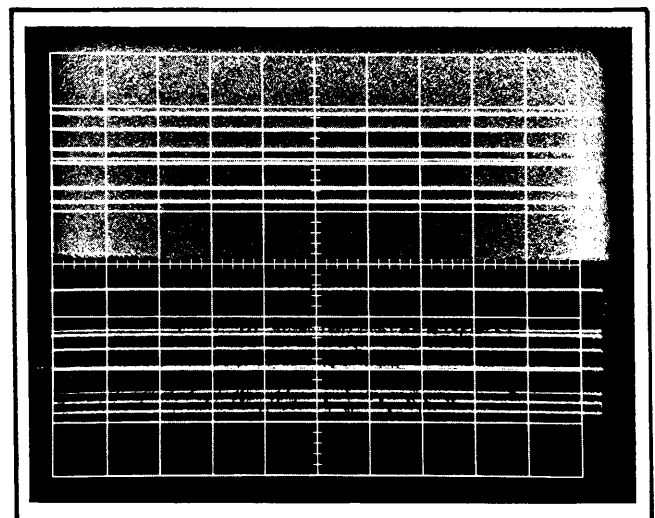

Fig. 5-25. Typical CRT display showing Upper Writing Limit on upper screen and Writing Threshold on lower screen.
2. Carefully check the written lines for breaks or gaps of 0.025 inches or more. If no breaks or gaps are evident after 10 seconds (see Fig. 5-25), note the voltmeter reading, then adjust the Op Level control to reduce the operating level by 5 volts.
up. See Fig. 5-25. If no trace spreading or background fade-up is evident after 10 seconds, adjust the Op Level control to increase the operating level by 5 volts.